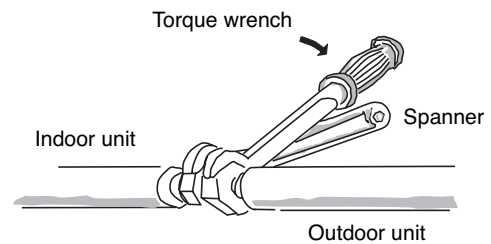

Fig. 9-6
- When removing the flare nuts from the tubing connections, or when tightening them after connecting the tubing, be sure to use 2 monkey wrenches or spanners as shown. (Fig. 9-6) If the flare nuts are over-tightened, the flare may be damaged, which could result in refrigerant leakage and cause injury or asphyxiation to room occupants.